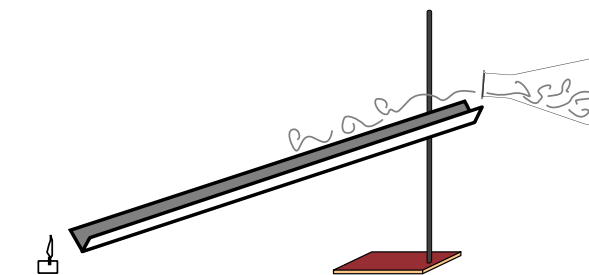

Figure 1.
2. Prepare a vapor ramp by elevating one end of an aluminum angle bracket using a ring stand and clamp. The ramp should be at a 20° angle or about 20 cm elevation (see Figure 1).
3. Place an unlit candle on the countertop directly below the lower end of the vapor ramp (see Figure 1).